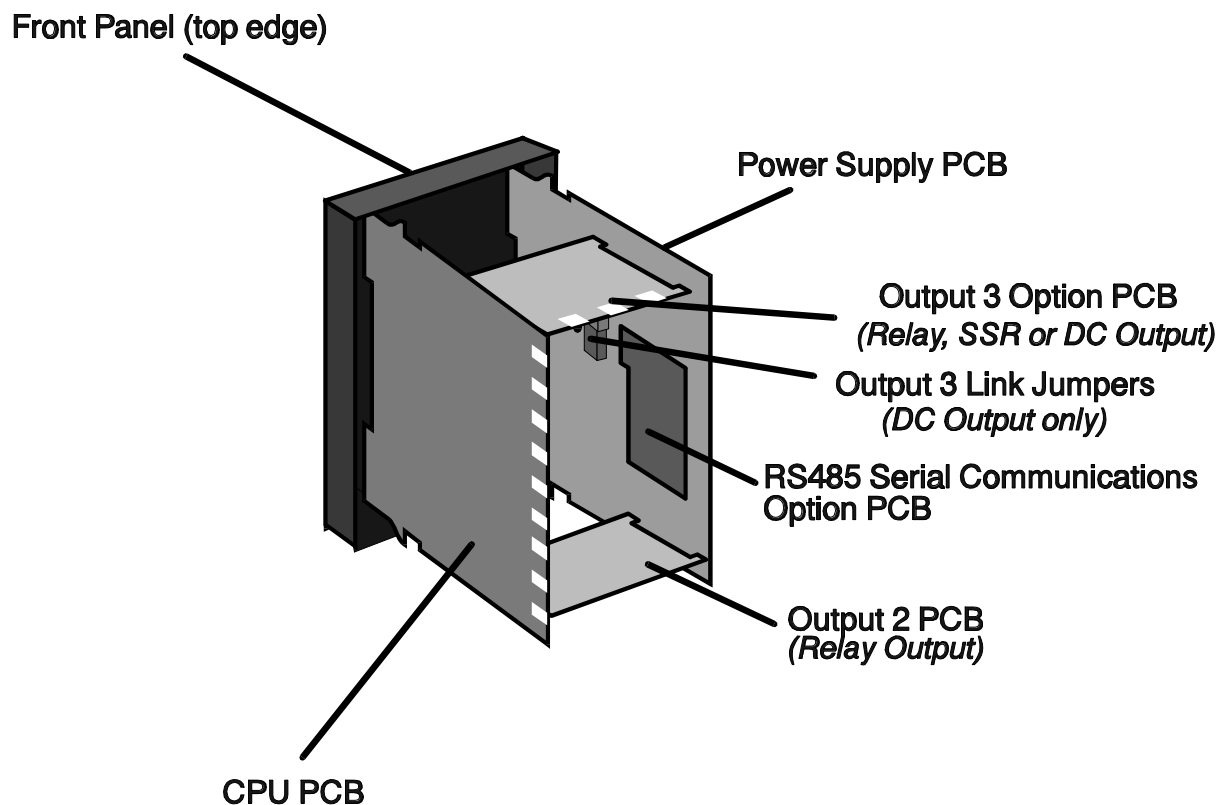
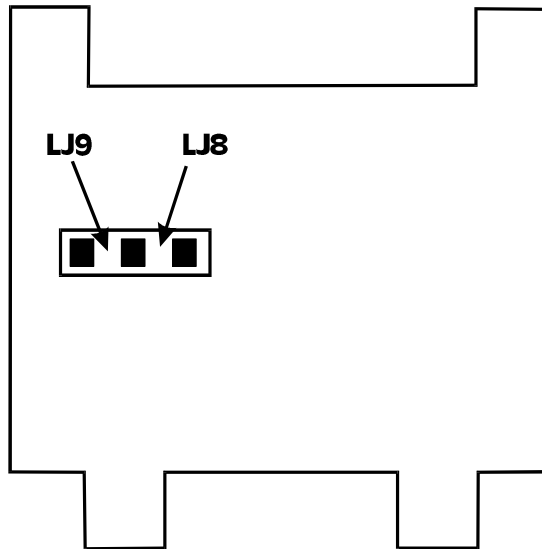

Figure 2-1 PCB Positions
Figure 2-6 DC Output 3 Option PCB
To withdraw the Controller from its housing, simply grip the side edges of the front panel (there is a finger grip on each edge) and pull the Controller forwards. This will release the Controller from its rear connectors in the housing and will give access to the Controller PCBs. Take note of the orientation of the Controller for subsequent replacement into the housing. The positions of the PCBs in the Controller are shown in Figure 2-1.
The type of output for Output 3 is determined by the Output 3 Option PCB fitted (see Figure 2-1) and, in the case of the DC Output Option PCB being fitted, the setting of Link Jumpers LJ8 and LJ9 on the Option PCB (see Figure 2-6 and Table 2-2). There are three types of option PCB which may be used for Output 3:
3. DC Output Option PCB (link jumpers as shown in Figure 2-6)